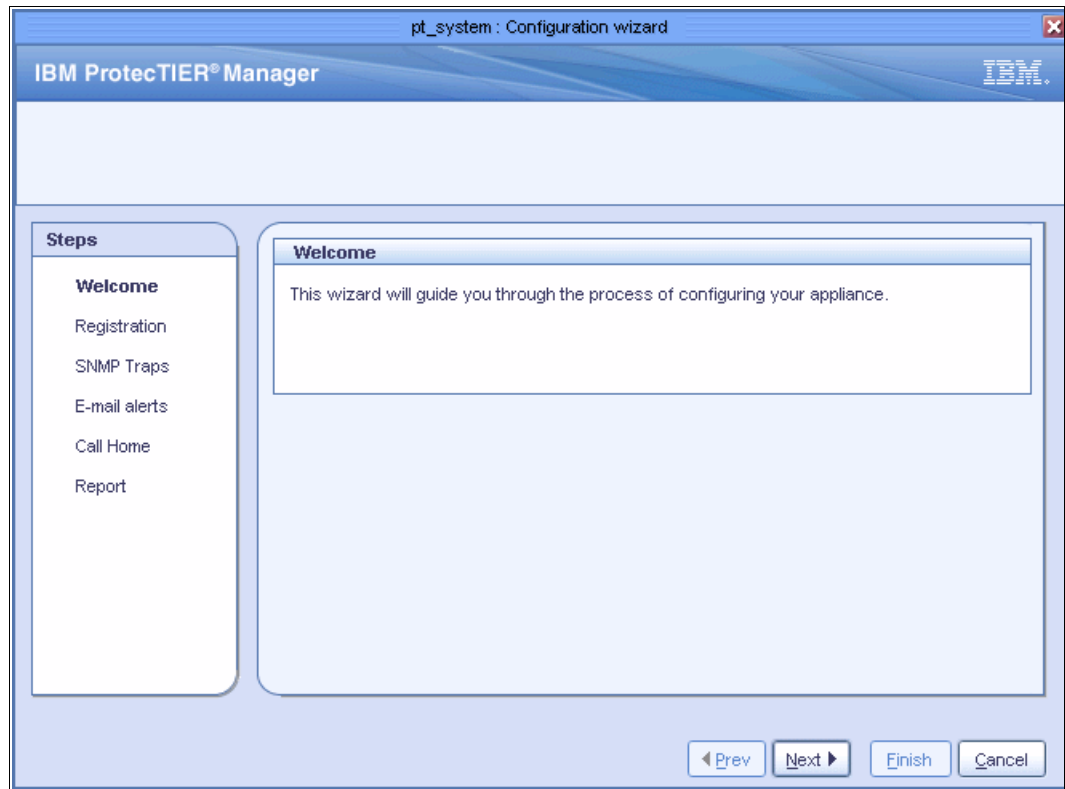

Figure 5-35 TS7610 Configuration Wizard Welcome window
3. The Welcome window opens. Click **Next**. See Figure 5-35.